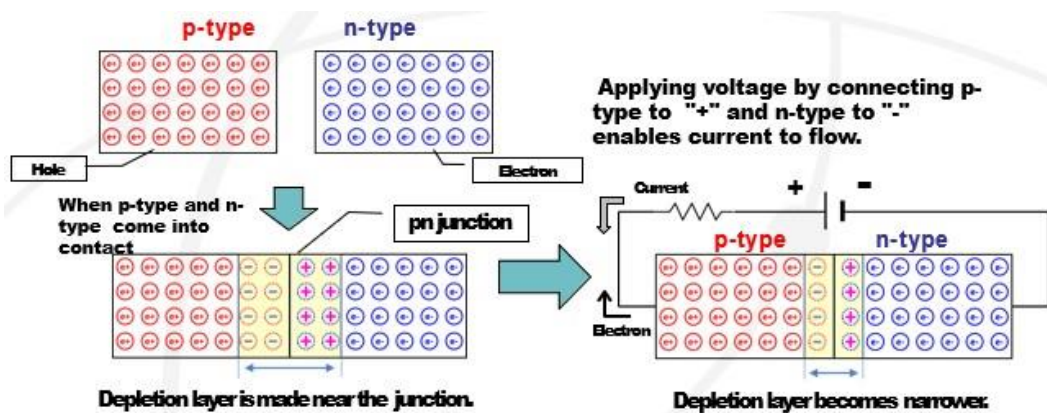

Figure 1.9 Free electrons mobility
- The basic concept of free electrons mobility is shown in Figure 1.9.